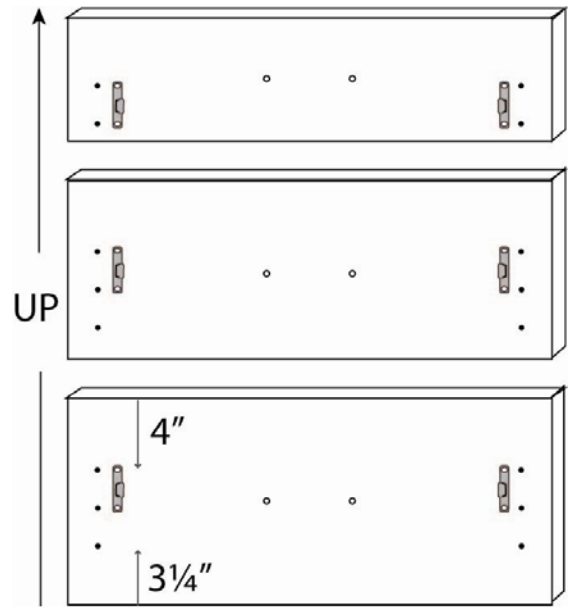

Fig 4
7. Assemble the connectors to the drawer face. Place drawer face on a protected surface with handle side down. Align front connector (2) screw holes and pre-drilled holes on drawer face sides. (See Fig. 4.)